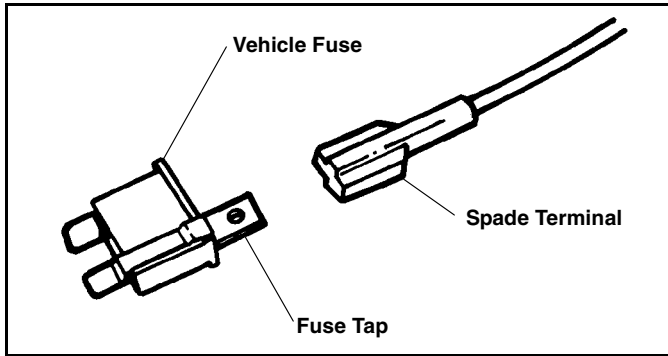

Figure 1-7
13. Using a test probe, determine the fused “Dead/OFF” side of the fuse and attach the A.T.O. fuse tap to that side of the fuse. (See Figure 1-7).